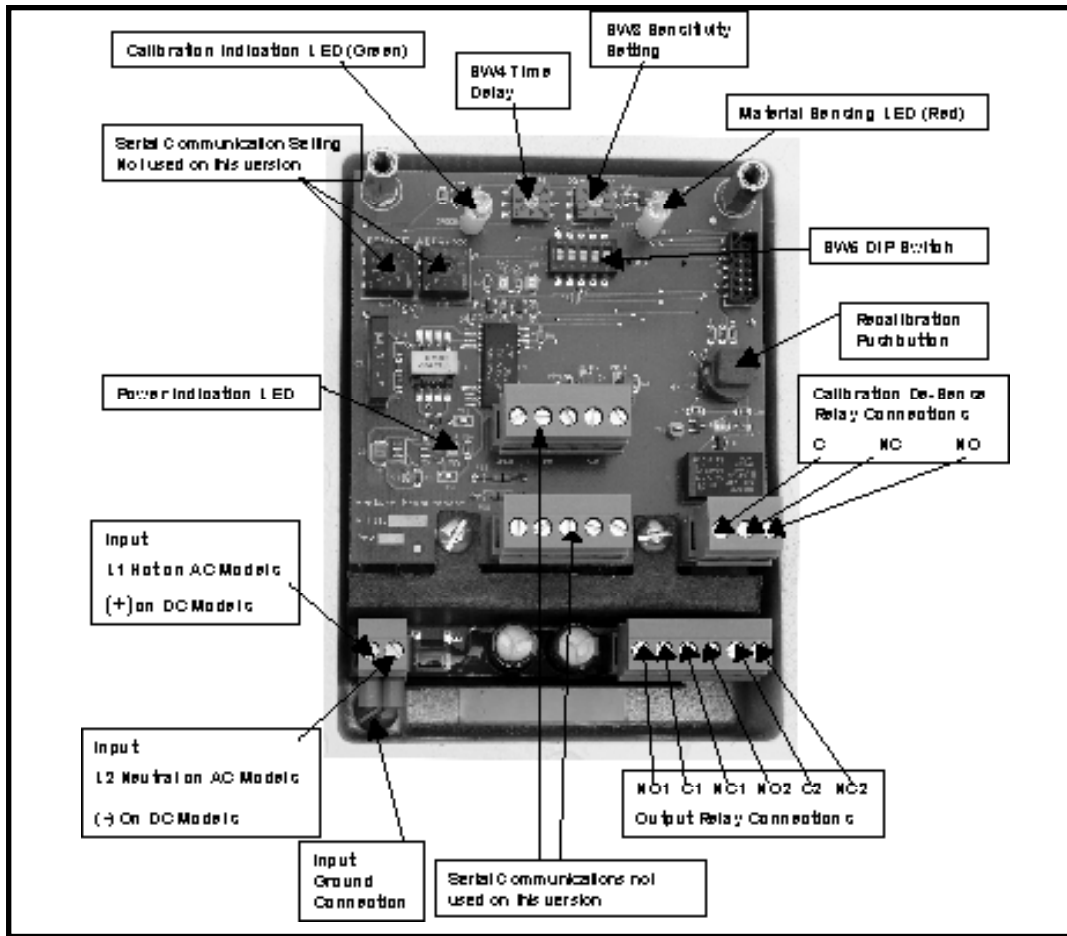
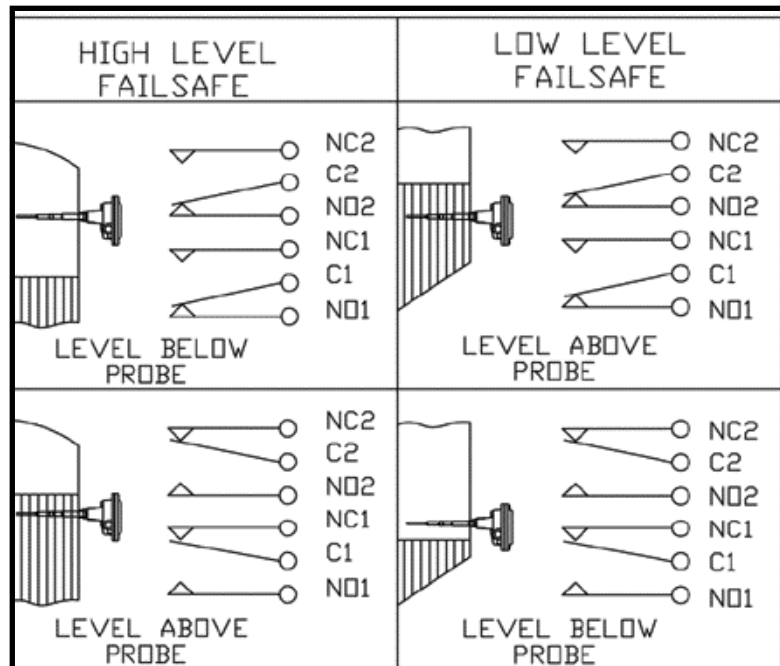

Figure 1. VRF-2000 Electronics
Figure 2. High/Low Level Failsafe
See Figures 1 and 2 in section 4.2 for location of input and output wiring.
See Figure 1 for location of input and output terminal blocks. Agency approved insulated barrel type terminals are supplied in the input terminal block to provide additional safety. These terminals must be used in order to maintain approval requirements. See Figure 2 for output contact positions during stages of operation.
**IMPORTANT!** An electrical earth ground connection must be made to the housing input ground screw. See Figure 1 for location. This connection is needed for both electrical safety and proper operation of the unit. This is required for both AC and DC units.
The VRF™ is shipped from the manufacturer in the high level failsafe condition. This setting is made on DIP switch SW1, position 5. See Figure 1 in section 4.2.
The VRF™ is shipped from the manufacturer in the 2pF setting. This setting is made on rotary switch SW3. See Figure 1 in section 4.2.
The VRF™ is shipped from the manufacturer in the minimum time delay setting. This setting is made on DIP switch SW5 positions 2 and 3 to set the mode of delay, and on rotary switch SW4 to set the amount of delay. This setting will delay the time between when the VRF™ unit senses material and the output relay changes state. The delay is only in this direction, regardless of failsafe setting. There will be no delay when the material leaves the probe. See Figure 1 in section 4.2.
The VRF-2000 features EZ-CAL® II. This feature consists of three parts. First, is an automatic calibration when the unit is first powered up. This should be done when no material is present at the probe. Second, is an automatic recalibration if the VRF™ electronics senses that the capacitance of the probe circuit has decreased significantly from what it was when it was last calibrated. Third, is the ability to manually recalibrate by momentarily pushing the recalibration pushbutton. See Figure 1 in section 4.2. The VRF-2000 is shipped from the manufacturer with the automatic calibration/recalibration feature enabled. If only manual pushbutton calibration/recalibration is desired, set SW5 DIP switch position 4 to off.
If the unit is powered on the bench prior to installation, or moved from one installation to another, recalibration is required. Momentarily press the recalibration pushbutton. See Figure 1 in section 4.2 for location. The green calibration indication LED will go off, and after 3 seconds illuminate to indicate calibration is complete.
- Check for proper input voltage. If correct, the "Power Indication LED" should be illuminated. See Figure 1 in section 4.2 for location.